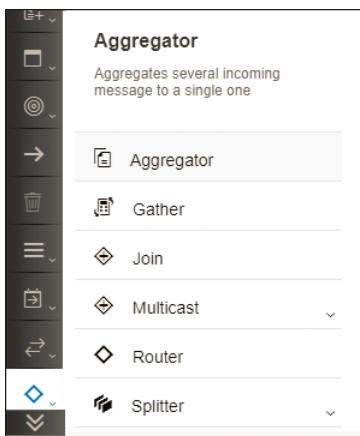

Figure 4.118 Aggregator Step in the Design Palette
1. Navigate to the **Design** section of SAP Cloud Platform Integration, and select the **Aggregator** step from the palette, as shown in Figure 4.118.